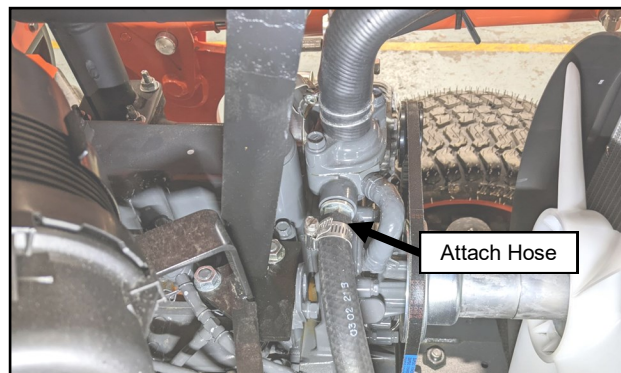

Fig. 15.15 (Attach Hose to Hose Nipple)
- 15.15** Connect the heater hose to the hose nipple with a small hose clamp. See Figure 15.15.